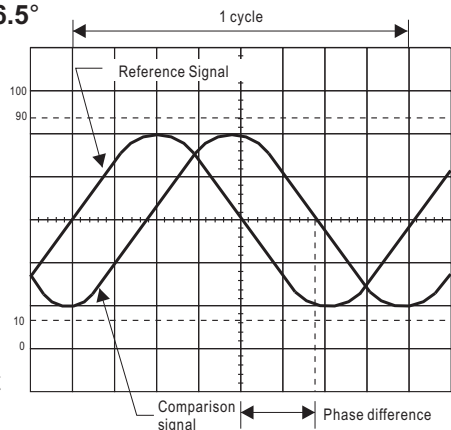

Fig. 15
In the example shown in Fig.15, a period of $40 \mu\text{s}$ is observed. Substituting this value into the above equation, the frequency is calculated as follows:
(Refer to Fig.15)
3. Use the Y POSITION control to position the waveforms in the vertical center of the screen. Use the TIME/DIV and VAR SWEEP controls to adjust the display so one cycle of the reference signal occupies 8 divisions horizontally (see Fig. 15). The TRIG LEVEL and X POSITION controls are useful in achieving this display. The display should be as shown in Fig. 15, where one division now represents 45° in phase.
For the example shown in Fig.15, the horizontal distance is 1.7 divisions. Thus, the phase difference is calculated as follows: